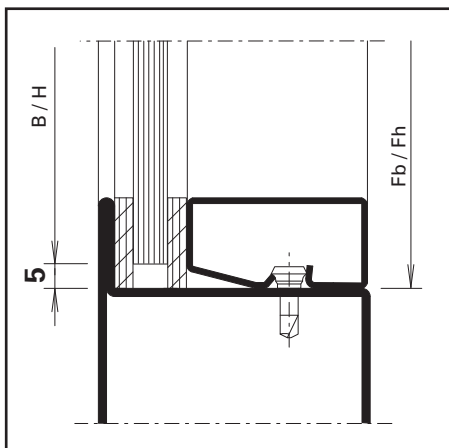

Abb. 7 / Fig. 7 / Fig. 7
z.B. Pyrodur, Swissflam Lite, Contraflam Lite, Pyrobelite, Pyran S, etc. (Abb. 7)
p.ex. Pyrodur, Swissflam Lite, Contraflam Lite, Pyrobelite, Pyran S, etc. (fig. 7)
e.g. Pyrodur, Swissflam Lite, Contraflam Lite, Pyrobelite, Pyran S, etc. (fig. 7)